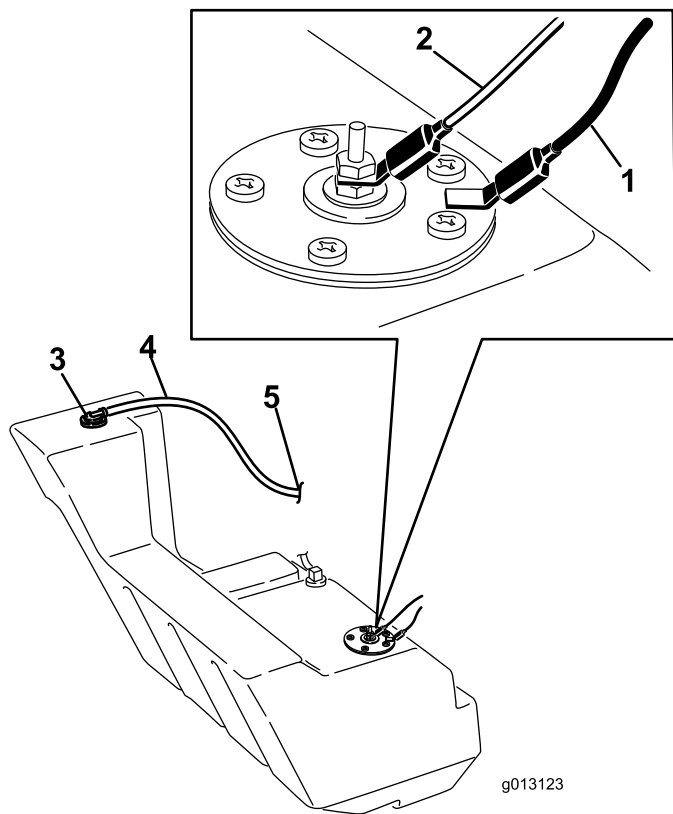

Figure 68
12. Disconnect the 2 wires leading to the right side of the tank (Figure 68).
21. On the right side of the tank, connect the orange wire to the center post and the black wire to the outside post (Figure 68).